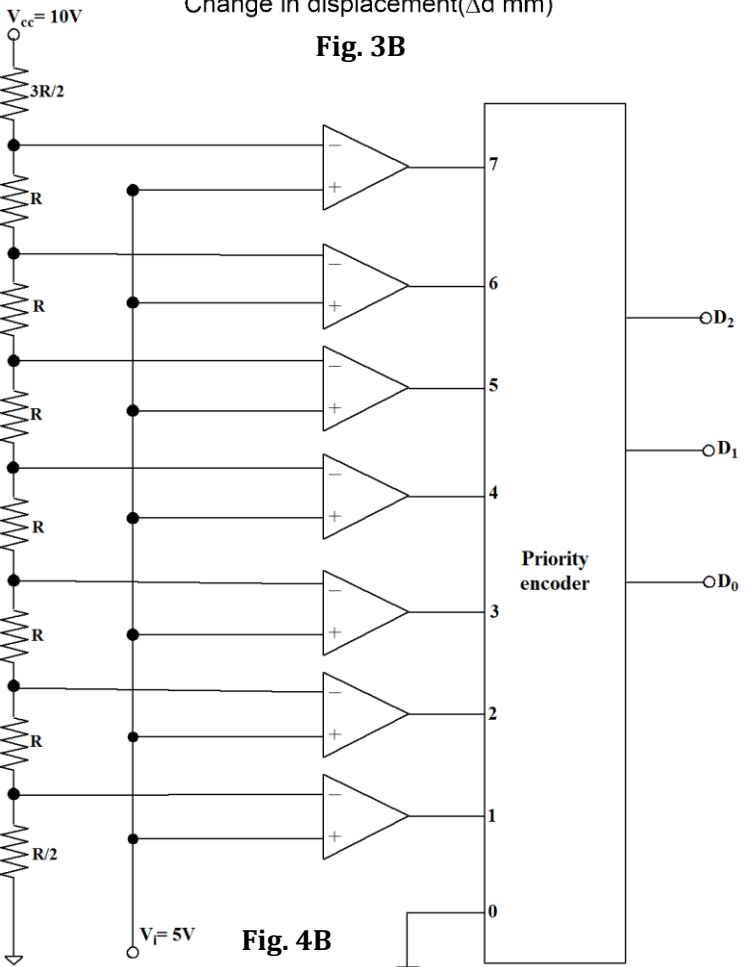

Fig. 4B
- 4B.** With appropriate explanations and accompanying truth table, explain the working of a 3 – bit parallel converter employing a priority encoder as shown in Fig. 4B. Identify the binary output for an input voltage of 5V. (03)